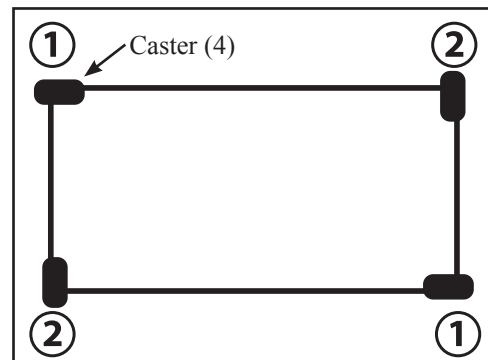

Figure 6 - Configuring the Casters To Hold the Table Stationary
- To help prevent the table from rolling during use, lock the casters at 90° angles as shown in Figure 6:
- (1) Align two wheels of opposite corners parallel to the long sides of the table and lock them.
- (2) Turn the remaining two wheels perpendicular to the long sides of the table and lock them.